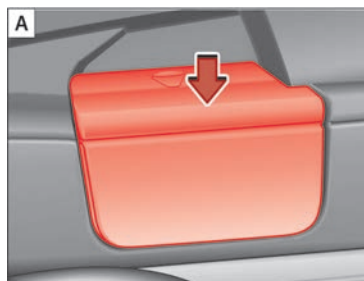

Fig. 92 Remove the shelf supports (B) then put them away safely (B)
- Remove the shelf from the support in the side lining ⇒ Fig. 92 **(A)**. To do this, press the shelf upwards (arrow) and remove it.